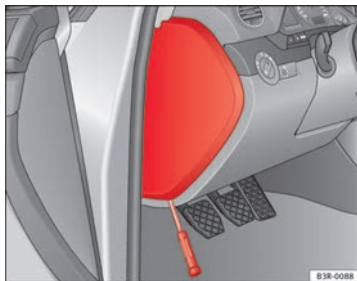

Fig. 203 Fuse box cover on the left side of the dash panel.
- *Opening:* Remove the fuse box cover using a screwdriver ⇒ Fig. 203.